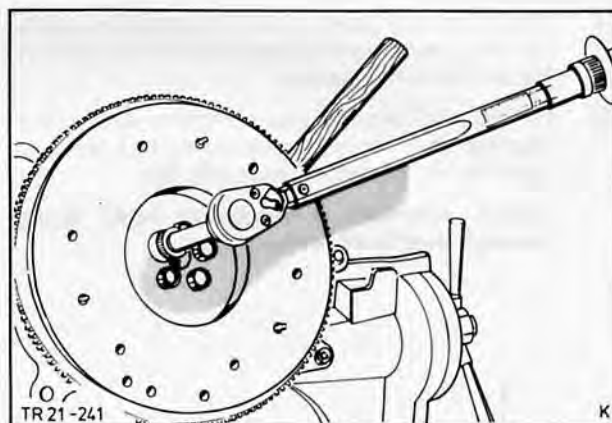

Fig. 60. Fit flywheel
47. Invert engine and position rear cover. Fit flywheel, Fig. 60, and torque as specified in Technical Data.